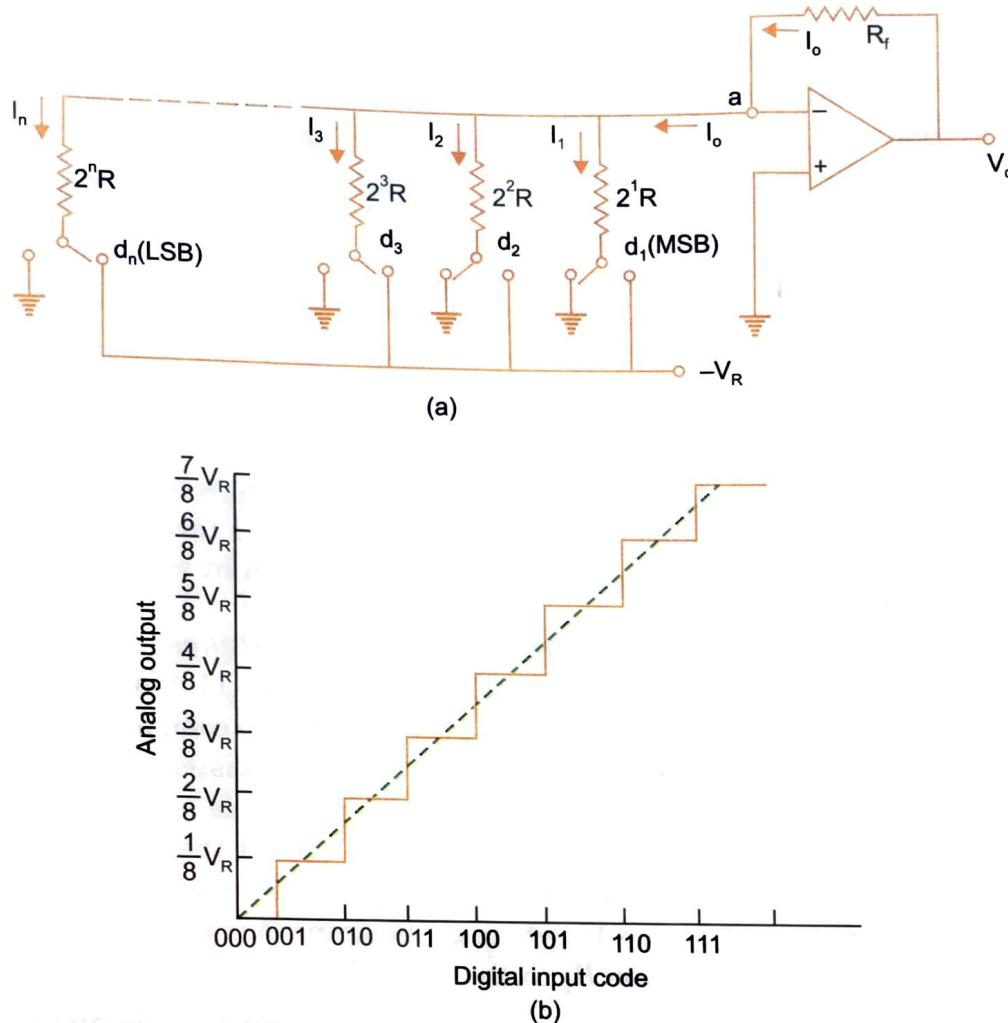
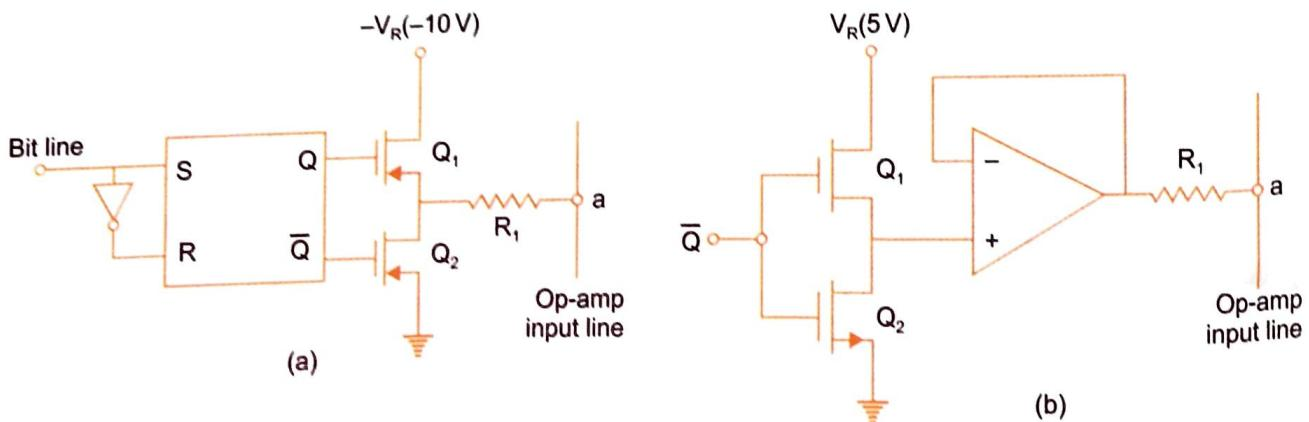

Fig. 11.3 (a) A simple weighted resistor DAC, **(b)** Transfer characteristics of a 3-bit DAC
Fig. 11.4 (a) A totem pole MOSFET switch **(b)** CMOS inverter as switch
One of the simplest circuits shown in Fig. 11.3 (a) uses a summing amplifier with a binary weighted resistor network. It has n -electronic switches d_1, d_2, \dots, d_n controlled by binary input word. These switches are single pole double throw (SPDT) type. If the binary input to a particular switch is 1, it connects the resistance to the reference voltage ($-V_R$). And if the input bit is 0, the switch connects the resistor to the ground. From Fig. 11.3 (a), the output current I_o for an ideal op-amp can be written as
The circuit shown in Fig. 11.3 (a) uses a negative reference voltage. The analog output voltage is therefore positive staircase as shown in Fig. 11.3 (b) for a 3-bit weighted resistor DAC. It may be noted that
- (i) Although the op-amp in Fig. 11.3 (a) is connected in inverting mode, it can also be connected in non-inverting mode.
The switches in Fig. 11.3 (a) are in series with resistors and therefore, their **on** resistance must be very low and they should have zero offset voltage. Bipolar transistors do not perform well as voltage switches, due to the inherent offset voltage when in saturation. However, by using MOSFET, this can be achieved.
Different types of **digitally controlled SPDT electronic switches** are available of which two are shown in Fig. 11.4. A totem-pole MOSFET driver in Fig. 11.4 (a) feeds each resistor connected to the inverting input terminal 'a' of Fig. 11.3 (a). The two complementary gate inputs Q and \bar{Q} come from MOSFET S-R flip-flop or a binary cell of a register which holds one bit of the digital information to be converted to an analog number. Assume a negative logic, i.e. logic '1' corresponds to -10 V and logic '0' corresponds to zero volt. If there is '1' in the bit line, $S = 1$ and $R = 0$ so that $Q = 1$ and $\bar{Q} = 0$. This drives the transistor Q_1 **on**, thus connecting the resistor R_1 to the reference voltage $-V_R$ whereas the transistor Q_2 remains **off**. Similarly a '0' at the bit line connects the resistor R_1 to the ground terminal.
Another SPDT switch of Fig. 11.4(b) consists of CMOS inverter feeding an op-amp voltage follower which drives R_1 from a very low output resistance. The circuit is using a positive logic with $V(1) = V_R = +5 \text{ V}$ and $V(0) = 0 \text{ V}$. The complement \bar{Q} of the bit under consideration is applied at the input. Thus $\bar{Q} = 0$ makes transistor Q_1 **off** and Q_2 **on**. The output of the CMOS inverter is at logic 1, that is, 5 V is applied to resistor R_1 through the voltage follower. And if $\bar{Q} = 1$ the output of the CMOS inverter is 0 V connecting the resistance R_1 to ground.
- (ii) For binary digital input 1000, setting $d_1 = 1$ and $d_2 = d_3 = d_4 = 0$ in Fig 11.3(a), we can write